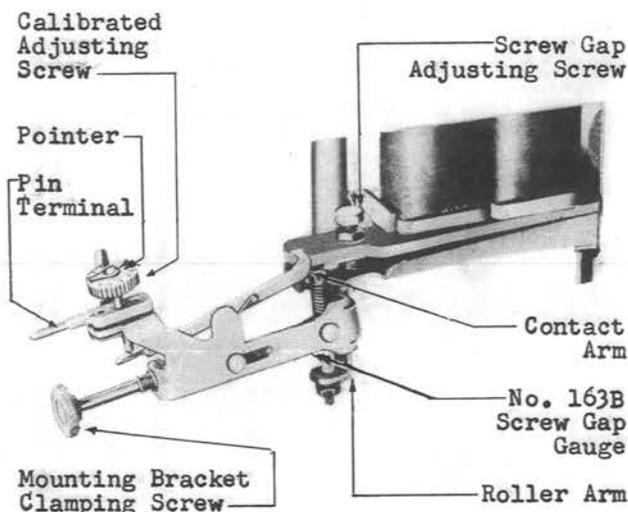

Fig. 19 - Checking Gap Between Screw Gap Adjusting Screw and Roller Arm
(7) With the 35 type test set connected to the clutch as covered in 3.004, fully operate the clutch and visually make sure that the clutch has some screw gap. A screw gap is essential to get an indication of the point at which the adjusting screw is closest to the roller arm. Operate the down drive magnet to restore the clutch to normal.
(8) Insert the No. 310 plug of a W2W cord into the SIGNAL BAT & GRD jack of the test set. Make sure that a 48 volt lamp is in the lamp socket and connect the black (ring) conductor of the cord to the common terminal of the clutch, or some other source of 48 volts. Operate the knife switch designated "L" to the "500 and LAMP" position.
(9) Mount the No. 163B screw gap gauge on the roller arm as shown in Fig. 19. To do this, back off the mounting bracket clamping screw as far as possible. Hold the contact end of the contact arm down against the gauge frame. This will permit the gauge to be mounted on the roller arm without damaging the contact arm. Insert the jaws of the bracket over the vertical portion of the roller arm with the contact arm above the armature. Raise the gauge on the roller arm until it rests against the under-surface of the roller arm. Tighten the clamping screw finger tight to hold the gauge in position. Connect the white (tip) conductor of the W2W cord in SIGNAL BAT & GRD jack of the test set to the pin terminal of the gauge.